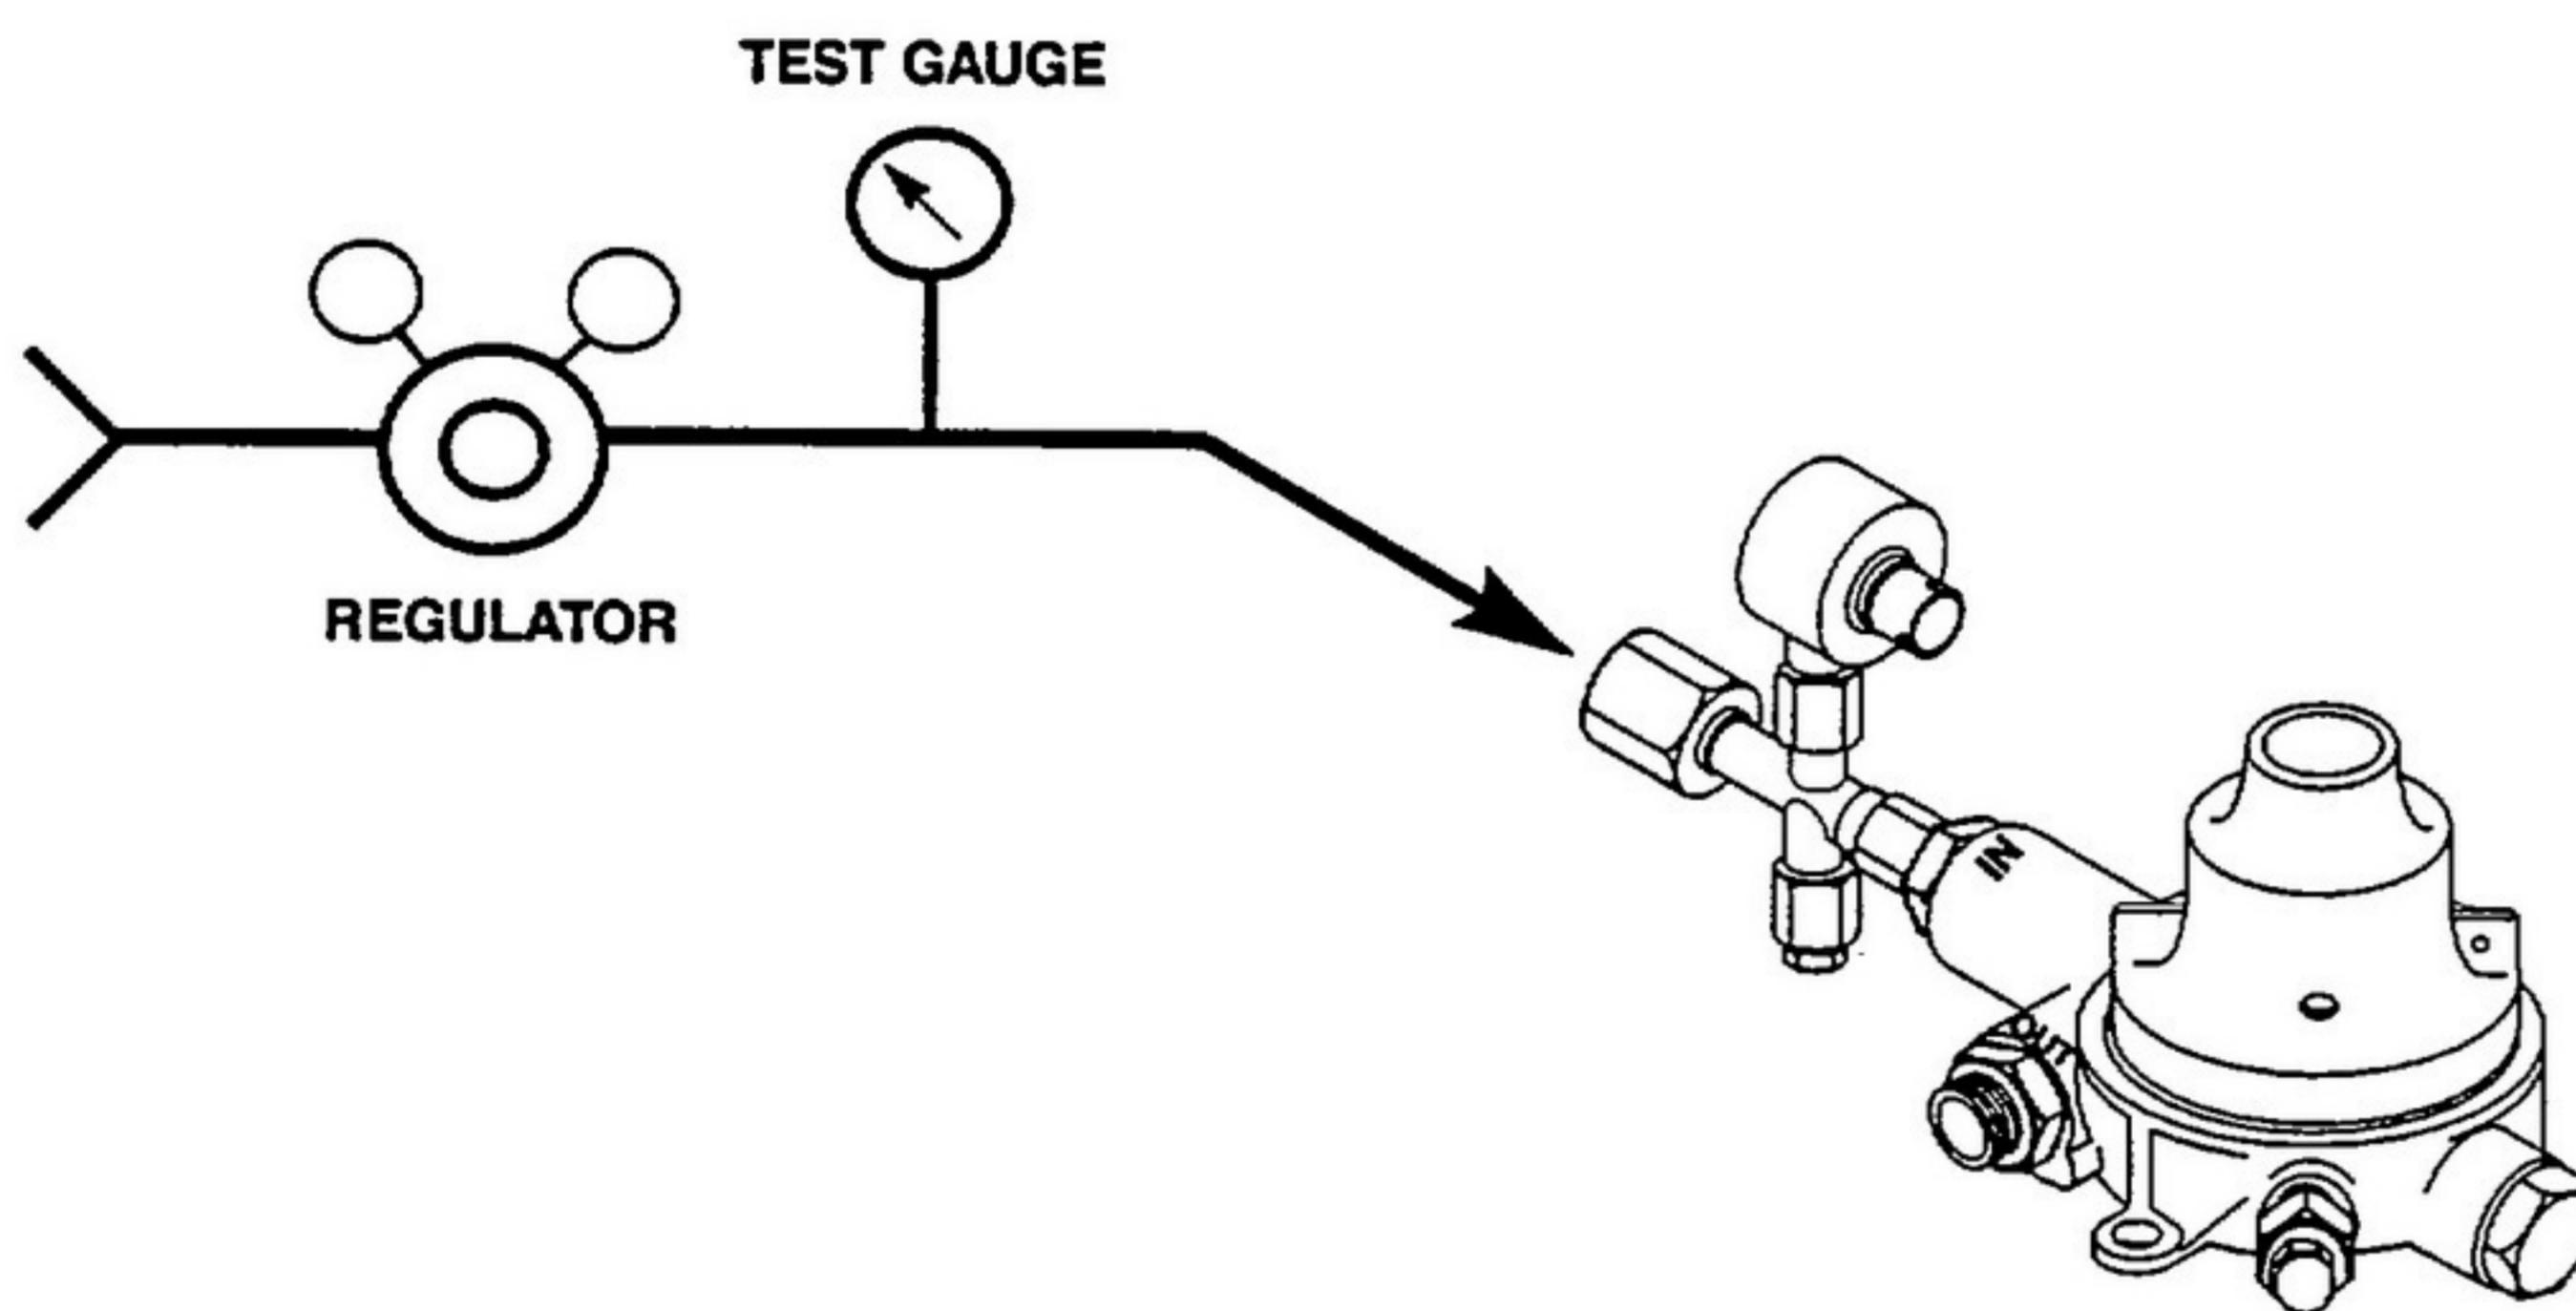

Figure 101 Typical Test Setup
- (3) Apply pressurized oxygen ($1850 +0/-50$ psi / $12.76 +0/-0.34$ MPa) to inlet port of coupling assembly (25, 25A or 30). See Figure 101.
- (4) Using leak test solution, check for leakage between transducer (5, 5A or 10) and coupling assembly (25, 25A or 30), between plug (15) and coupling assembly (25 or 25A) and between coupling assembly (25 or 30) and regulator assembly (65, 65A or 65B). There shall be no evidence of leakage during a period of one minute.
- (5) Discontinue flow of pressurized oxygen to inlet port of coupling assembly (25, 25A or 30). Remove plug(s) (15) from coupling assembly; remove moisture from exterior of assembly using clean, dry, oil-free air.
- (4) Connect high pressure oxygen supply to the inlet port of the coupling assembly as shown in Figure 101.
- (5) Apply pressures indicated in Table 104 or Table 105 as applicable; observe corresponding output voltage indicated on test meter. Output voltages shall be within voltage ranges indicated in the applicable Table.